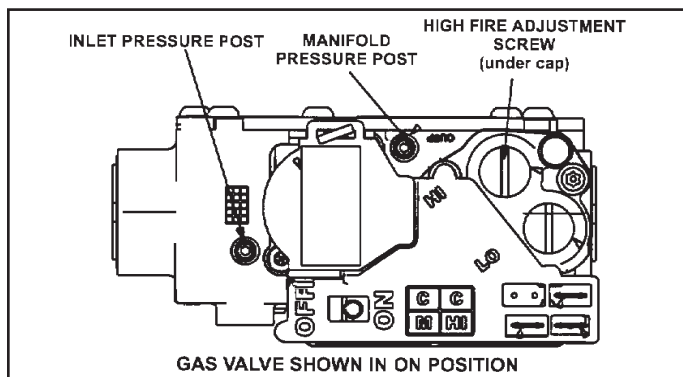

Figure 43. Gas Valve
3. Move gas valve switch to OFF. See Figure 43.
5. Move gas valve switch to ON. See Figure 43.
An inlet post located on the gas valve provides access to the supply pressure. See Figure 43. Back out the 3/32 hex screw one turn, connect a piece of 5/16 tubing and connect to a manometer to measure supply pressure. See Table 15 for supply line pressure.
A manifold pressure post located on the gas valve provides access to the manifold pressure. See Figure 43. Back out the 3/32 hex screw one turn, connect a piece of 5/16 tubing and connect to a manometer to measure manifold pressure.
5. Repeat on high fire and compare to value given in Table 15. If necessary, make adjustments. Figure 43 shows location of high fire and low fire adjustment screws.